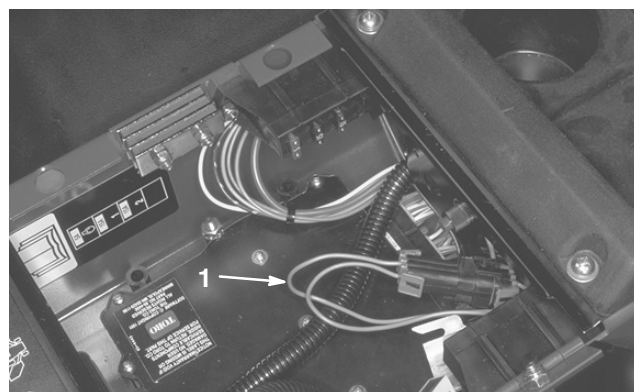

Figure 29
2. Open control panel cover. Locate wire harness and connectors near controller. Carefully unplug loop back connector from harness connector (Fig. 29).